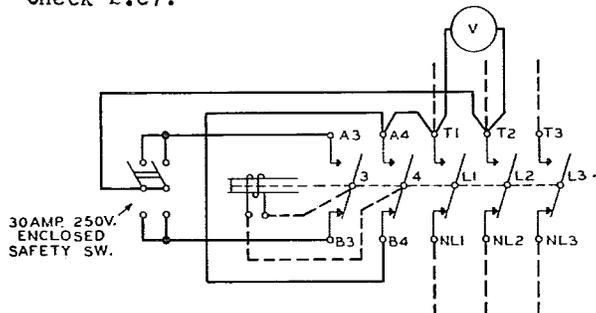

Fig. 3 - Checking Circuit
(1) When checking for the electrical requirements the contactor should be disconnected from the working circuit. This can usually be accomplished by operating a switch. Disconnect and tape the leads at terminals B3, B4, A3, and A4. Set up the checking circuit shown in Fig. 3, using wire of the size specified below. The operating coil is designed for momentary duty only and for that reason the contactor should not be operated more often than once per minute.